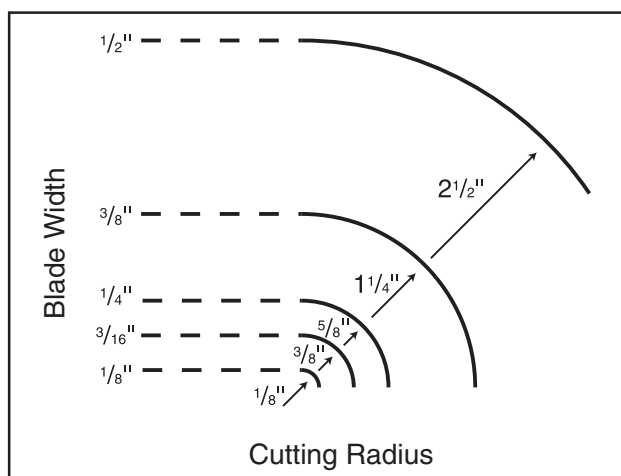

Figure 54. Blade width radii.
- **Curve Cutting:** Use the chart in **Figure 54** to determine the correct blade for curve cutting. Determine the smallest radius curve that will be cut on your workpiece and use the corresponding blade width.